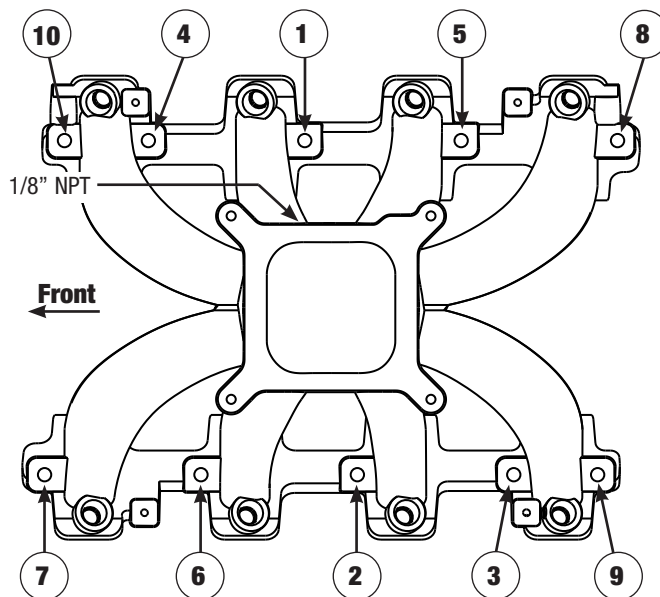

Figure 1 - Intake Manifold Tightening Sequence
1. Use only original equipment, GM #19256623, intake manifold O-Ring gaskets. As mentioned above, due to the larger port exits on these manifolds, the GM O-Ring gaskets will require a little stretching to fit into the O-Ring grooves. This will have no effect on how the O-Rings seal. Gasket sealer is not required when using OEM type gaskets. Using appropriate mounting hardware (not included) to mount the manifold to the engine. ***NOTE: Bolt location 3 and 4 require the use of the supplied M6 x 50mm Stud, M6 Nut and 1/4" washer, included with every manifold (See Figure 1). Install the studs into the heads prior to placing the manifold on the engine.*** Following the torque sequence in **Figure 1**, torque all manifold bolts to 11 ft/lbs.